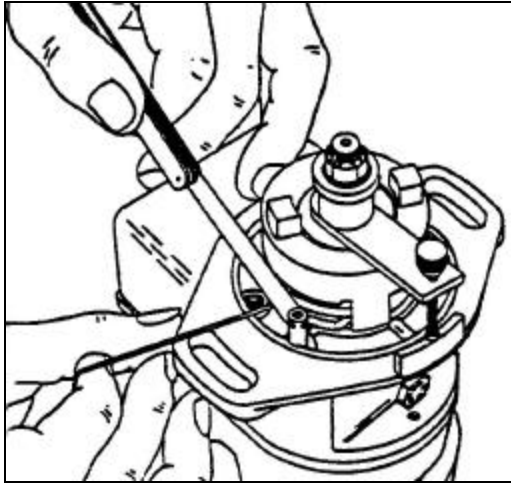

FIGURE 1. INSPECTION SET-UP
*CAUTION . . . Rotor is to be locked on drive end only. Do not use distributor gear lock devices. Use of such devices may result in gear tooth damage. See figure 1.*